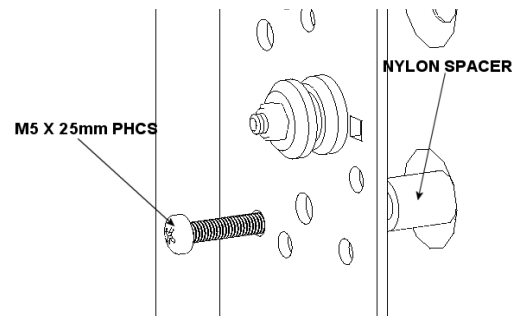
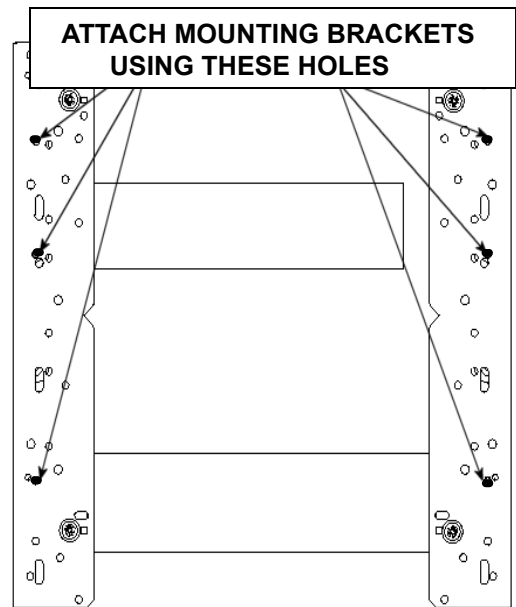

Figure 19. Spacer Installation for Group 6
Figure 20. Bracket Attachment for Group 6
4. Place the interface brackets over the Nylon spacers (see Figure 19 and Figure 20).
6. Using the M5x25mm screws in parts bag C, attach the interface brackets to your Large Flat Panel display (see Figure 19 and Figure 20). Do not overtighten the mounting screws.